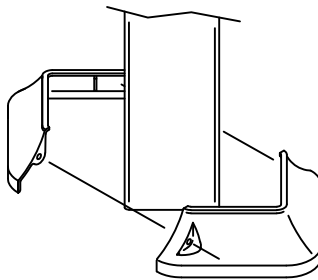

FIG. 6
If mounting plate covers (C1) are used, place halves around legs and secure with 2 (G) screws, see FIG. 6. Draw to a snug fit being careful not to over tighten.